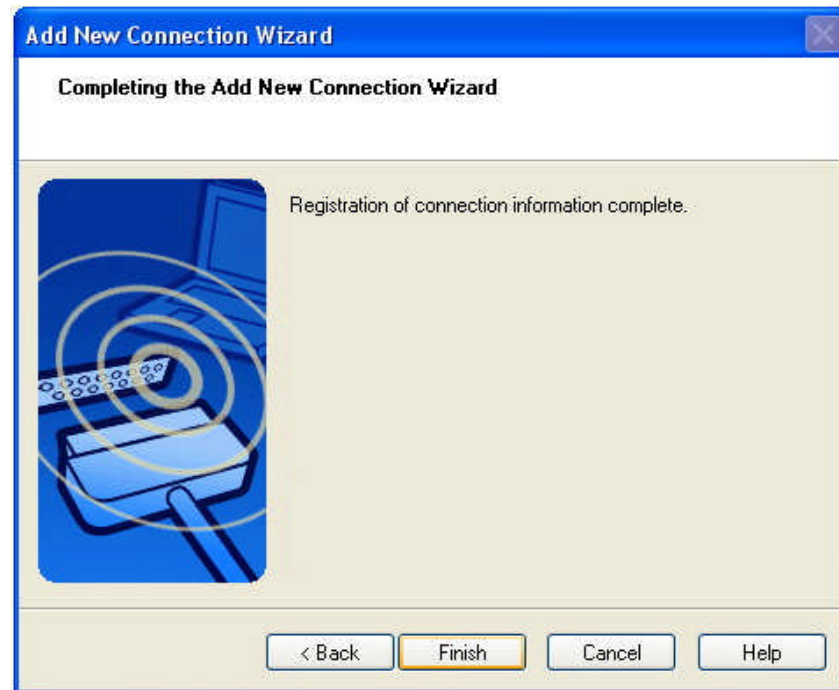

Figure 3.9: Complete the Connection Wizard
- h. Click the “Finish” button. (Figure 3.9)